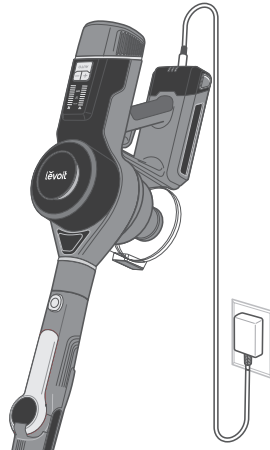

Figure 2.3
2. Plug the charger into an outlet. The battery indicator lights will blink while charging [Figure 2.3].